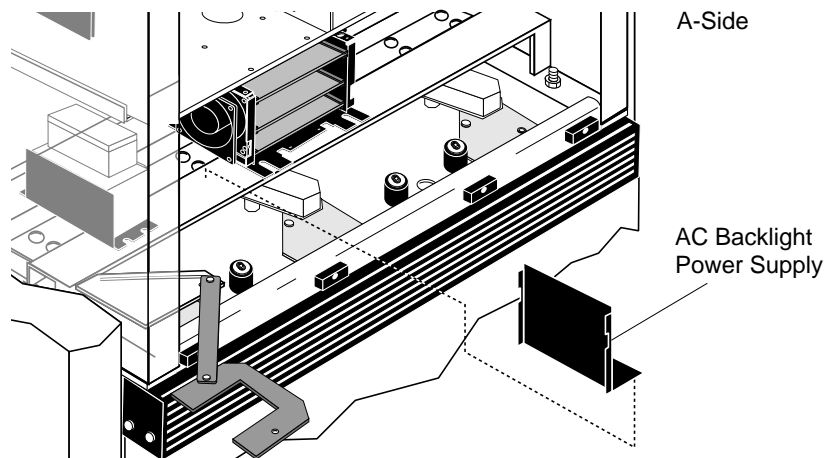

Figure 1
6. Install the new AC Backlight Power Supply Assembly between the main power supply and the card cage as shown in Fig. 1. Secure assembly using four screws.